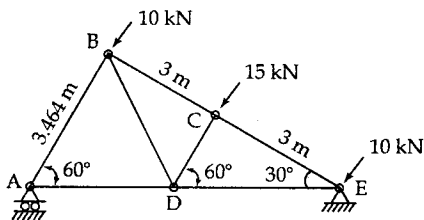

Fig. 7
- (b) Find the forces in all members for the truss shown in fig. 7.